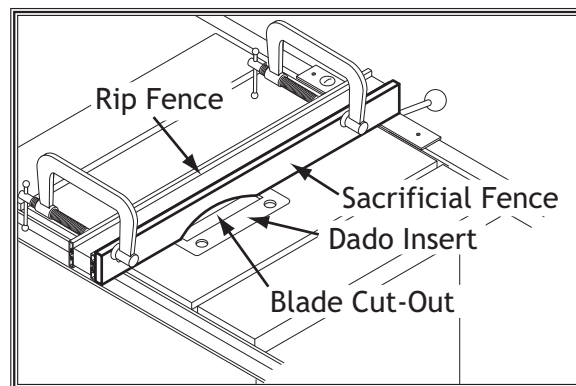

Figure 51. Sacrificial fence.
Rabbet cutting on the edge of the workpiece requires a sacrificial fence attachment as shown in Figure 51.
3. Attach it to the fence with screws or clamps as shown in Figure 51, making sure they are all secure and tight.